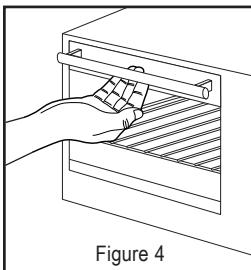

Figure 4
**Step 1:** Grab the center of the handle underhanded with fingertips (see Figure 4).